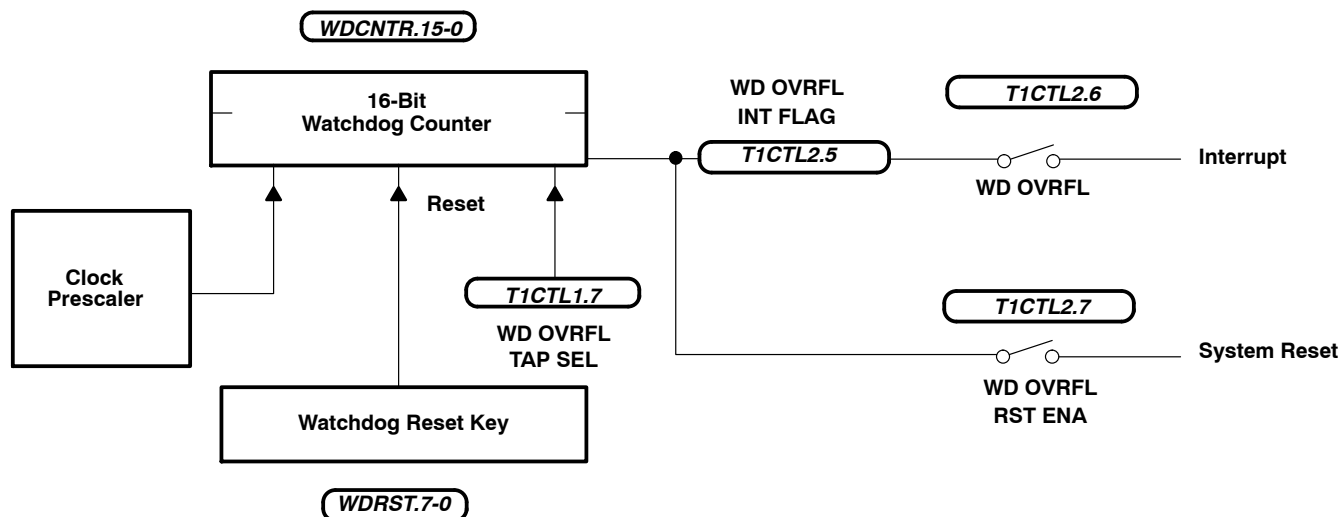

Figure 9. Standard Watchdog
- Standard watchdog configuration (see Figure 9) – for '76xA EPROM and mask-ROM devices